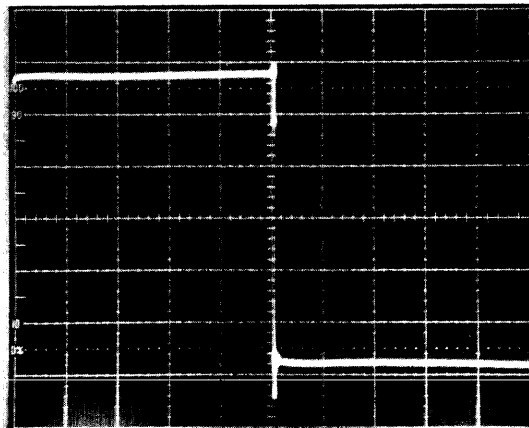

Figure 6.17
6.8.12 Observe Figure 6.17. Adjust C6 to minimize the overshoot at the top of the square wave.